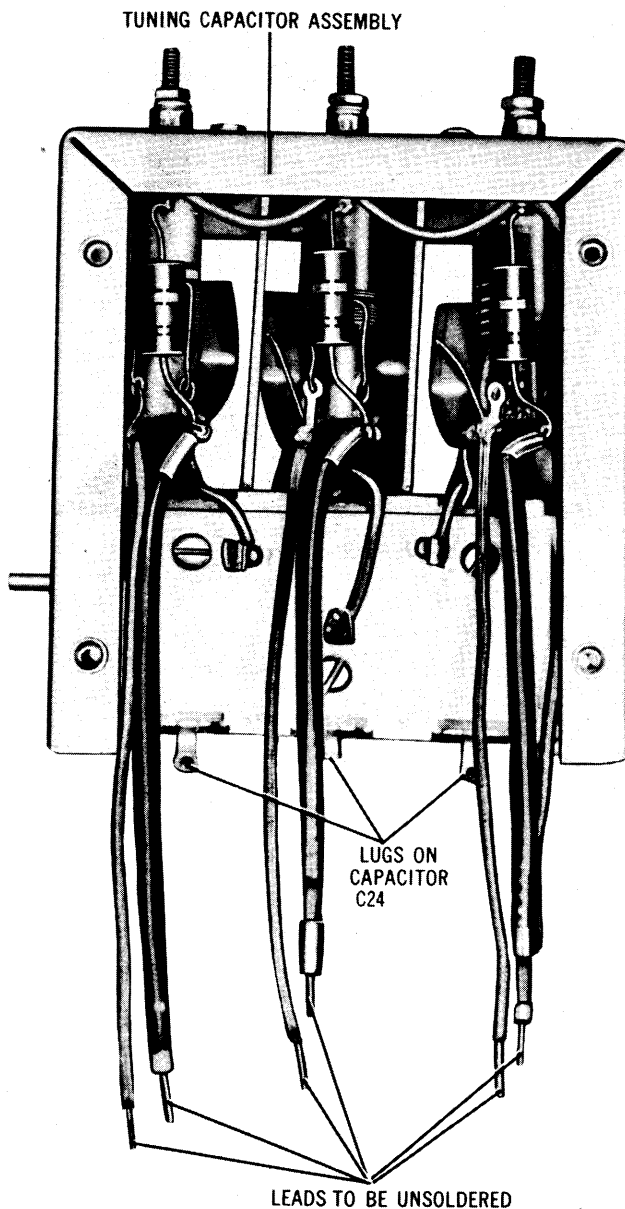

Figure 4-2. Tuning Capacitor Assembly
- c. Unsolder and tag the six leads (see figure 4-2) coming from the tuning capacitor assembly.